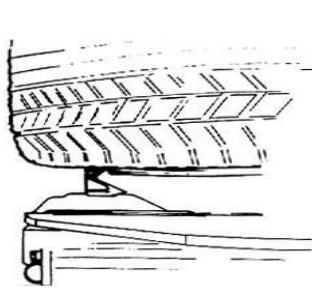

Fig16
- 3) Put the tyre on the turntable, depress the corresponding pedal to close the jaws until they near the rim and touch with the tyre.(Fig 16)